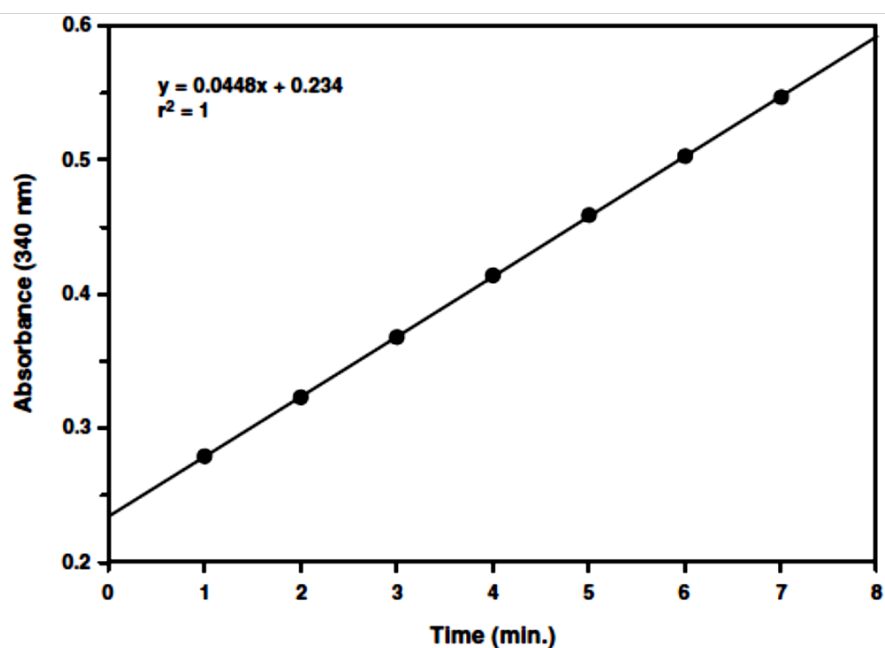

Figure 1. Activity of equine liver GST
- a. Plotting the absorbance values as a function of time to obtain the slope (rate) of the linear portion of the curve (a graph is shown in Figure 1 using equine liver GST) -or-